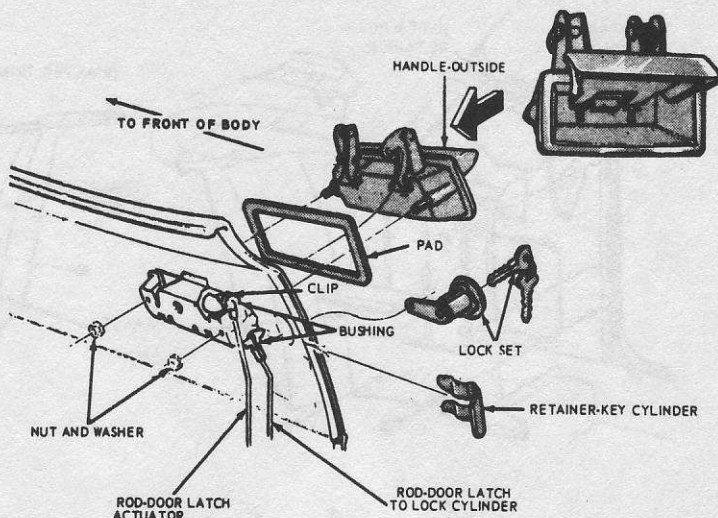

Fig. 12.20 Removing the outside door handle (Sec 26)
- 3 Disconnect the door latch actuator rod from the outside handle, undo the two nuts and washers securing the handle to the door and then remove the handle and pad (see Fig. 12.20)